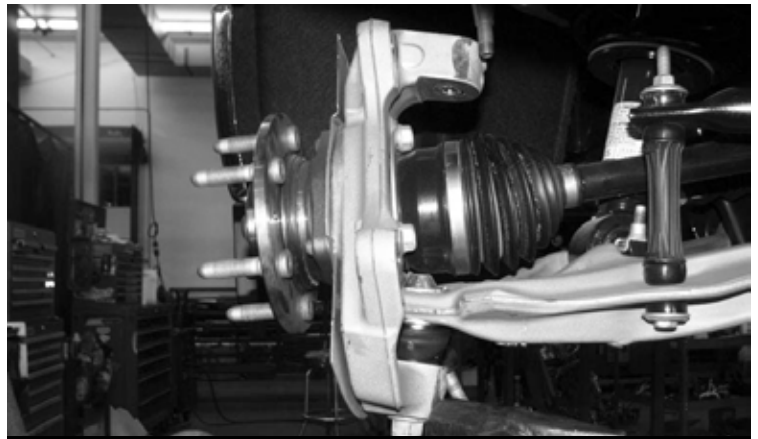

**FIGURE 7 - STEP 6**
6. Remove the axle nut and washer, save for re-installation. **SEE FIGURE 7**